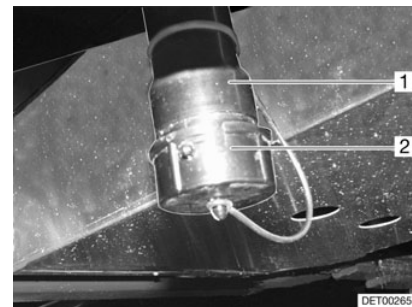

Fig. 84 Water drain neck
A hose line can be connected to the water drain neck (Fig. 84,1).
- Unlock and remove the cap (Fig. 84,2) from the water drain neck (Fig. 84,1) by turning it a quarter turn in a clockwise direction.
- Mount suitable hose to the water drain neck (Fig. 84,1) or place appropriate container under the water drain neck.